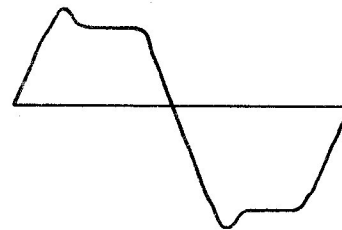

Fig. 5. Waveform diagram
- (2) Connect an oscilloscope across the load; waveform should conform to that shown in fig. 5.